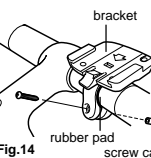

Fig. 14
- Use either 1mm- or 2 mm-thick pads if necessary, according to handlebar diameter. Attach the bracket close to the handlebar stem (fig. 14).